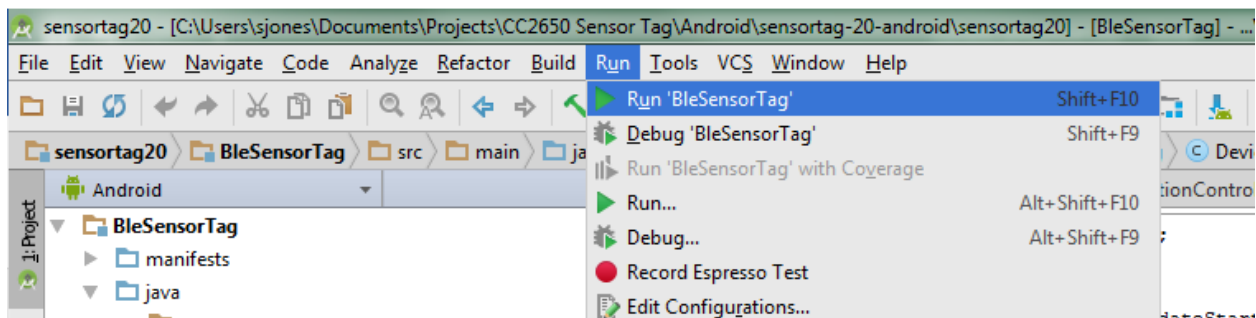

Figure 56, Run Program.
- 4) To download and run/debug the project on your Android device, select Run on the top menu bar and click Run 'BleSensorTag' or Debug 'BleSensorTag'. (Figure 56).